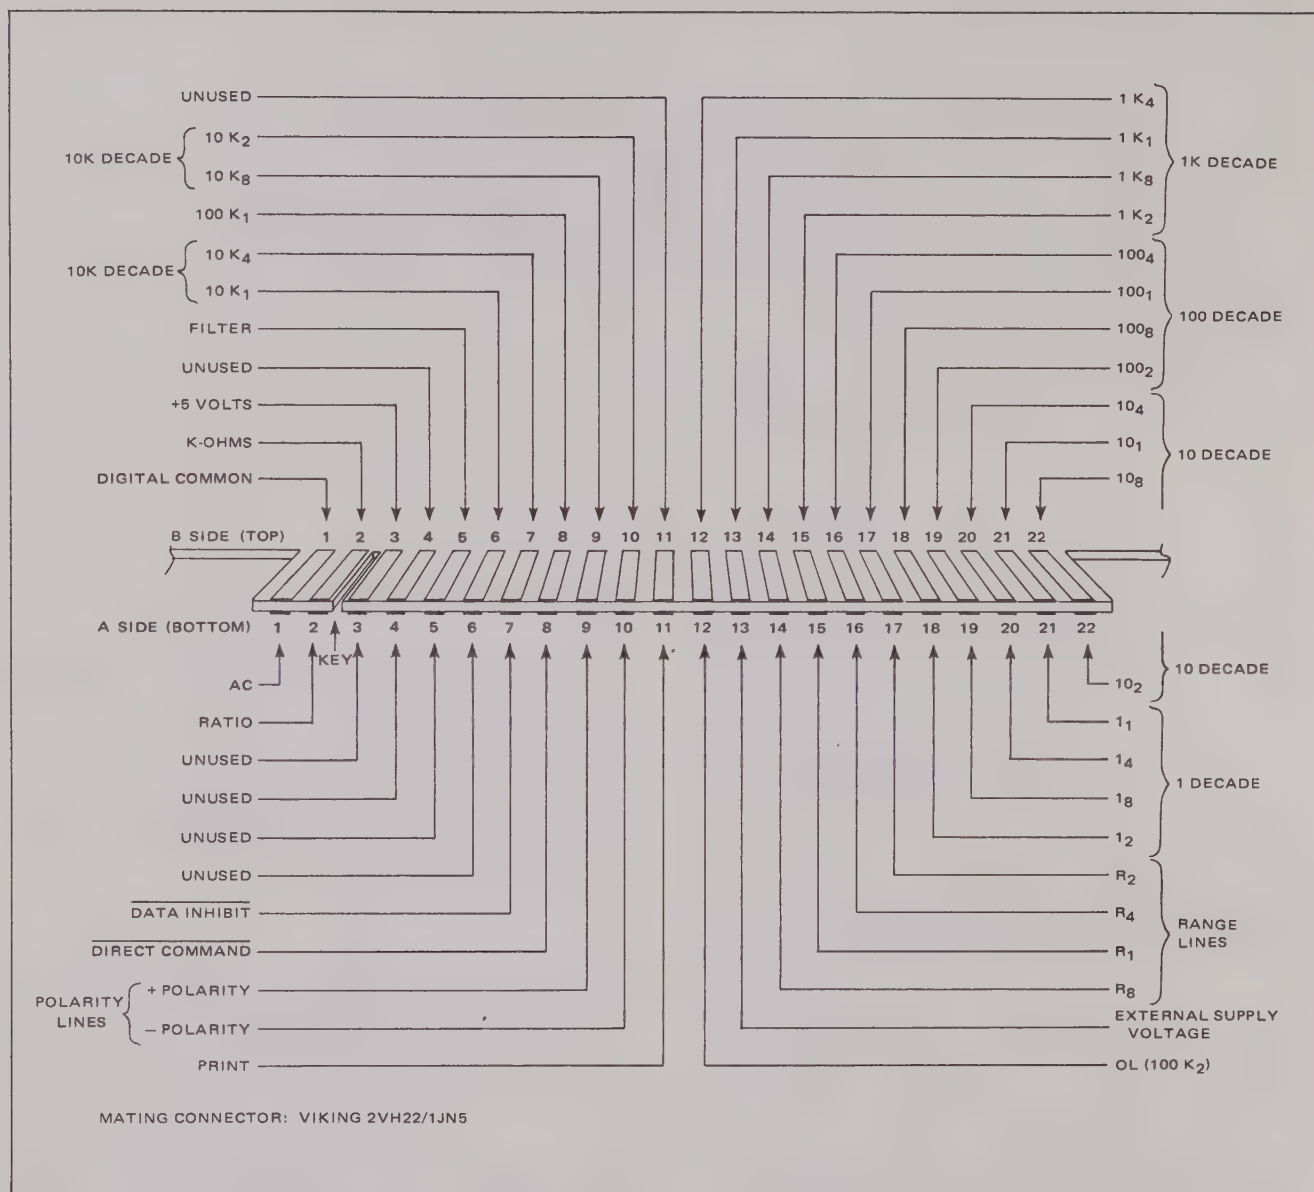

Figure 2.7 - J209 DATA OUTPUT Connector
2.36 Isolated BCD output data is available at connector J209 on the rear panel in positive-true 1-2-4-8 format at TTL logic levels (2.4 to 5.0 volts, true; 0 to 0.4V false). Pin assignments of J209 are shown in figure 2.7. Logic levels are referenced to digital common, pin B1.
2.38 Numerical data appears in four-line BCD code on the pins shown in figure 2.7. The data is identified by decade and BCD weight. Polarity is indicated by a true logic level on pin A9 (positive) or A10 (negative).